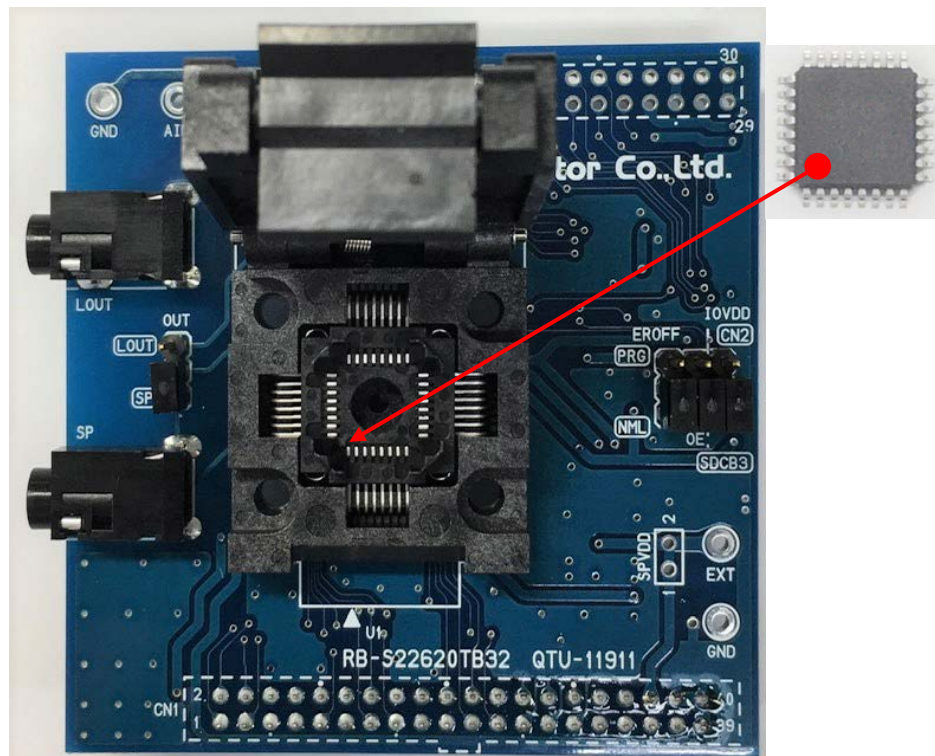

Figure 1 Outline Diagram
- Turn off the power when loading devices into the RB-S22620TB32. Be sure to orient the device correctly. Pin 1 direction is toward the lower left side when the lid is opened. The Figure 1 shows the setting directions of devices.